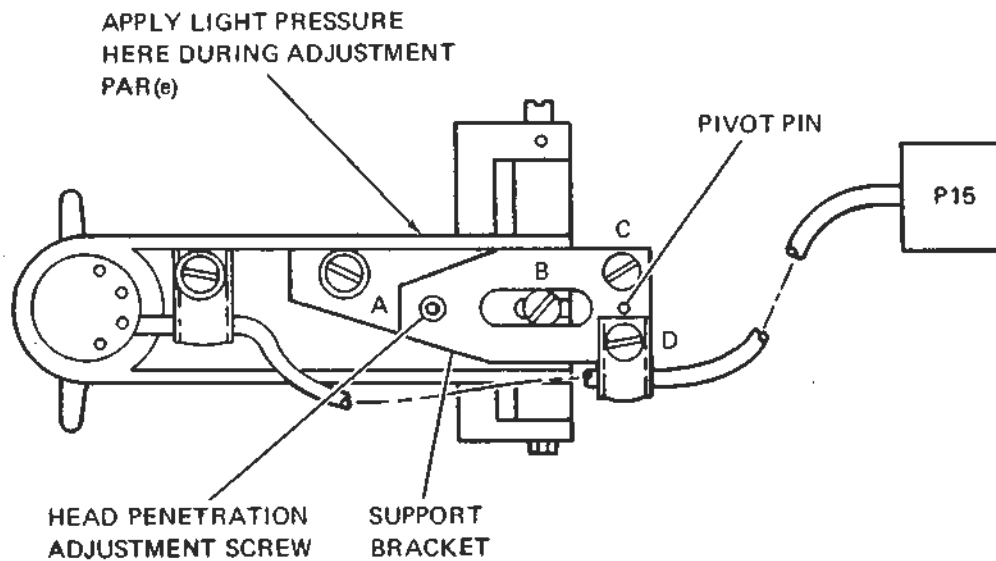

Figure 2-10. Positioner Track and Azimuth Adjustment (Side 1)
- e. Slacken screws A & B (Figure 2-10) holding head Side 1 carriage to support bracket.
- n. When the time intervals are within 20 μ sec, tighten two screws C and D. (Figure 2-10.)